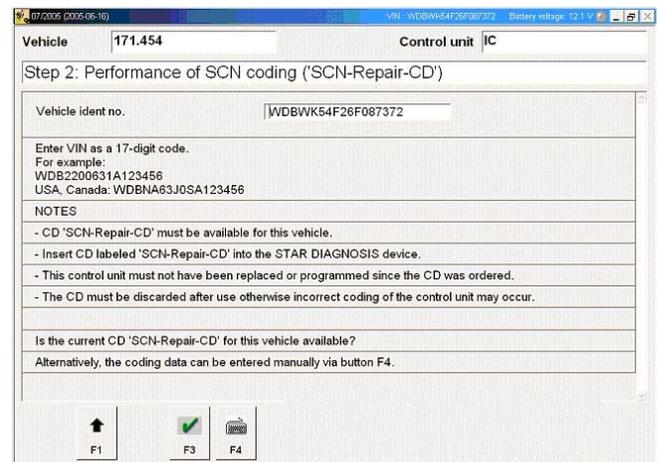

Figure 11
2. A. If you are SCN Coding via Print Out Method, press 'F4' (Figure 11) and continue to sub-category 'I' of this section (page 10).
B. If you are SCN coding via CD-Burn Method, insert the CD in the SDS, then press 'F3' (Figure 11) and continue on to sub-category 'III' of this section (page 11).